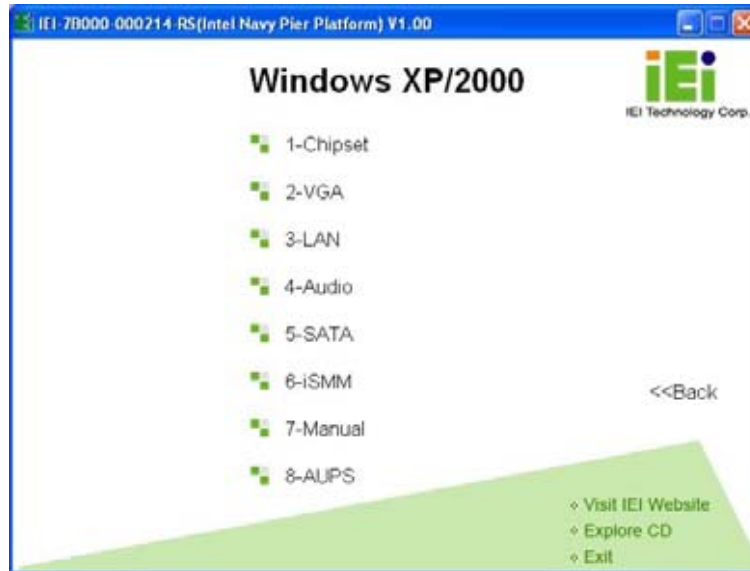

Figure 7-3: Drivers
Step 6: The list of drivers in **Figure 7-3** appears.
Step 7: Access the driver list shown in **Figure 7-3**. (See **Section 7.2**)
Step 20: Access the driver list shown in **Figure 7-3**. (See **Section 7.2**)
Step 36: Access the driver list shown in Figure 7-3. (See Section 7.2)
Step 46: Access the driver list shown in **Figure 7-3**. (See **Section 7.2**)